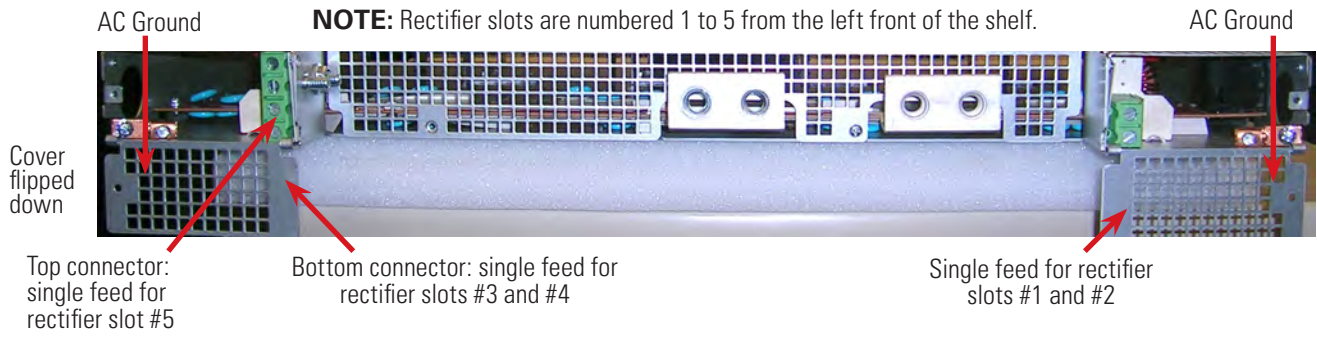

Figure 23: AC input and ground for 23-inch shelf
2. At the back of the shelf, remove screw and flip the cover down (two places) to access the AC input terminal blocks: each terminal pair corresponds to either two rectifiers or a single rectifier as shown in Figure 23.